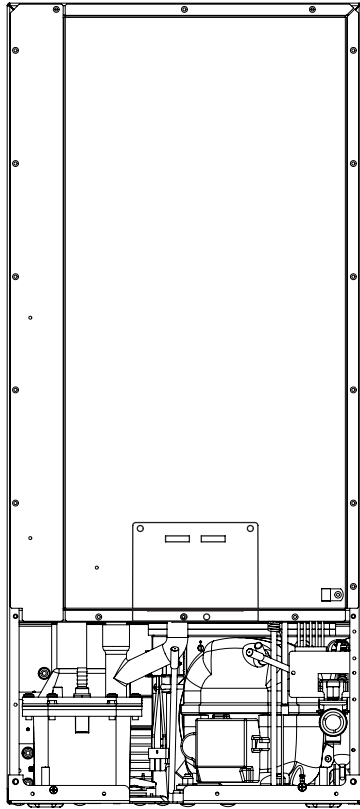

Figure 33
7. Disconnect the water valve's outlet water line to the reservoir and drain the remaining water left in the water line trap area. (See Figure 33 and 33a).
8. Reconnect the water valve outlet water line. (See Figure 33 and 33a).